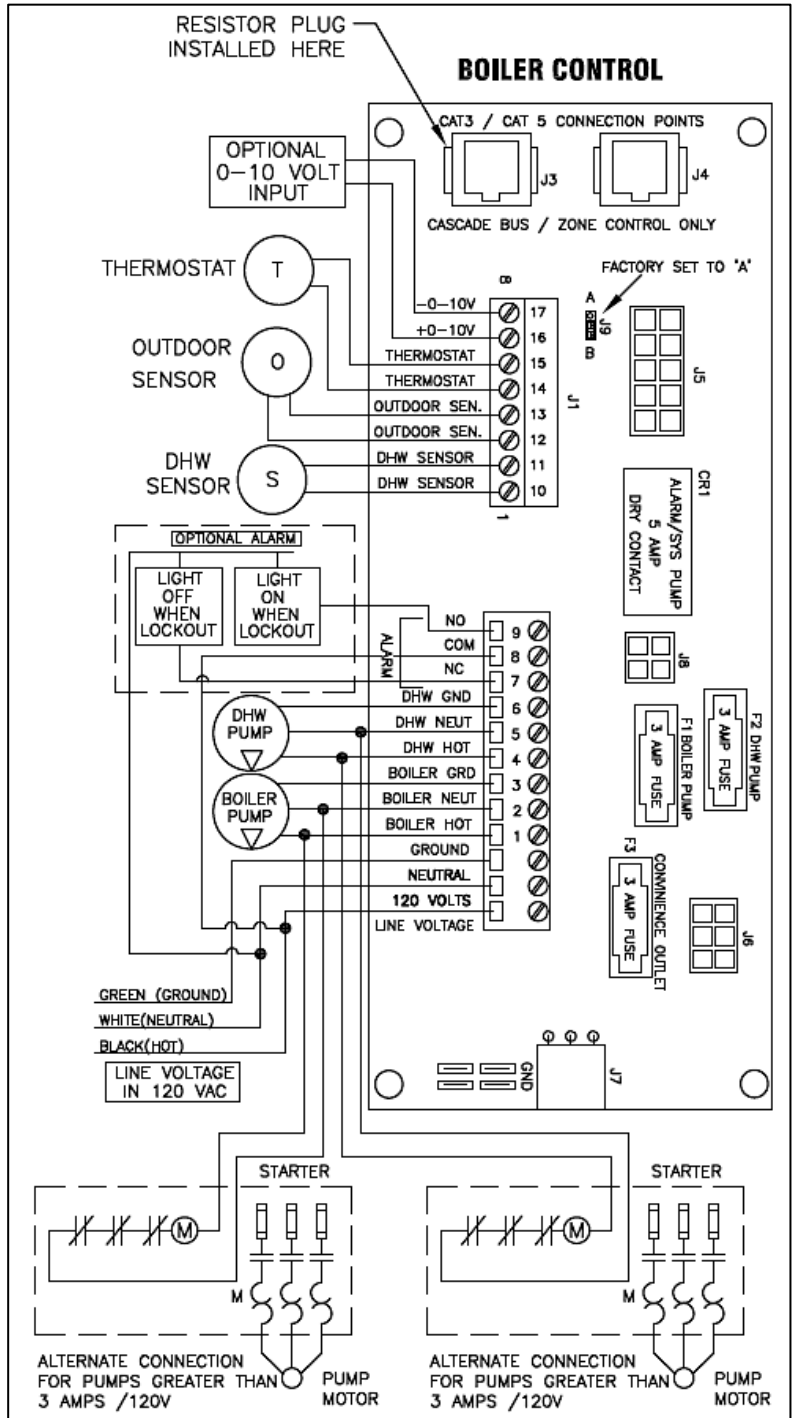

Figure 31 – Boiler Control
1. Connect the incoming power wiring to the line voltage terminal strip in the electrical junction box at terminals 120V, Neutral, Ground (shown in Figure 31).
3. Connect the boiler pump as shown in Figure 31 to the terminals marked 1 – (HOT), 2 – (NEUT), and 3 – (GND). The connections shown are suitable for a maximum continuous pump draw of 3 amps at 120 volts. If the pump requires more current or voltage than the 120 volts supplied, an external motor starter or contactor will be required.
The control includes a dry contact alarm output. This is an SPDT circuit, rated at 5 amps at 120 volts. This contact can be used to activate an alarm light or bell or notify a building management system if the boiler goes into a lockout condition. The circuit between the ALARM COM and NC terminals is closed during normal operation and the circuit between ALARM COM and NO is open during normal operation. The connections depicted in Figure 31 show two 120 volt lights connected to the alarm terminals. One light will be on when the boiler is in normal mode and the other light will be on when the boiler is in lockout mode.
1. Connect the room thermostat to the terminals marked THERMOSTAT in the electrical junction box (see Figure 31). Alternately, any dry contact closure across these terminals will cause the boiler to run. Take caution to ensure neither of the terminals becomes connected to ground.
2. Connect the indirect sensor (7250P-325) to the terminals marked DHW SENSOR (shown in Figure 31) in the electrical junction box.
2. Connect a building management system or other auxiliary control signal to the terminals marked 16, 0-10 VOLT + and 17, 0-10 VOLT – in the electrical junction box (shown in Figure 31). Caution should be used to ensure that the 0-10 VOLT + connection does not become connected to ground.
3. Move jumper on connection board (shown in Figure 31) from A to B.